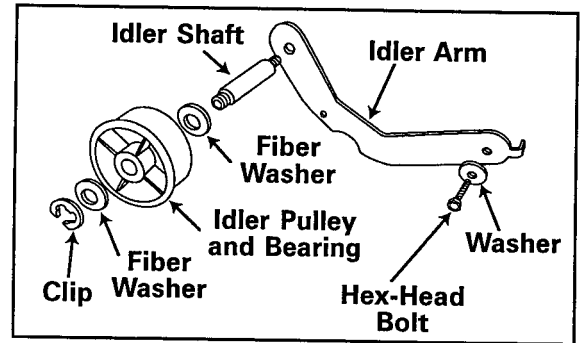

Figure 7-9
**NOTE:** *There is a fiber washer between the pulley and the idler arm. When replacing parts be certain the order of replacement is correct. (See Figure 7-9)*